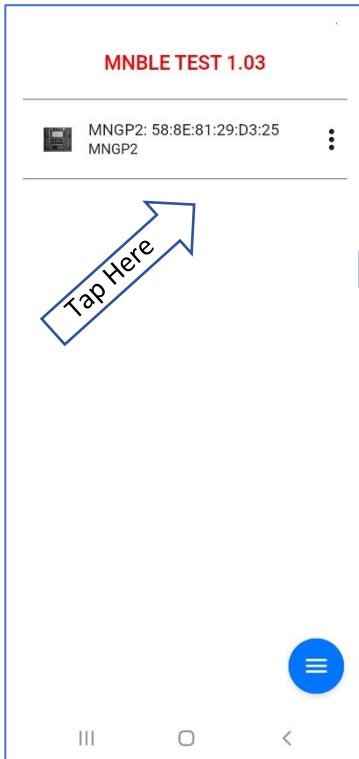

Figure 15
1. Download to your cell phone the MNGP2 Rosie firmware (FW) from the MidNite Solar website using this link ... <https://www.midnitesolar.com/firmwareIndex.php>
4. FW app will appear as shown in **Figure 15**.